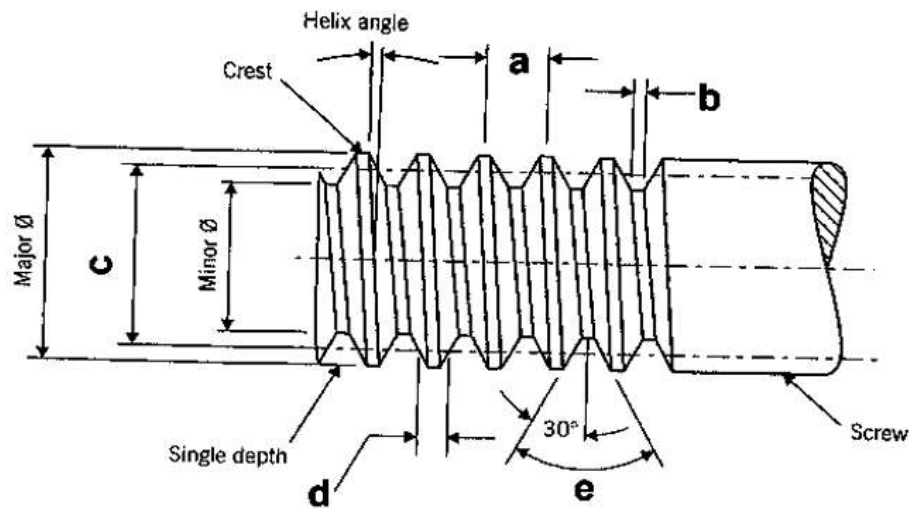

FIGURE 3.1
- 3.1 The picture below, FIGURE 3.1, shows an ISO Metric screw thread example. Label the parts from (A – E).